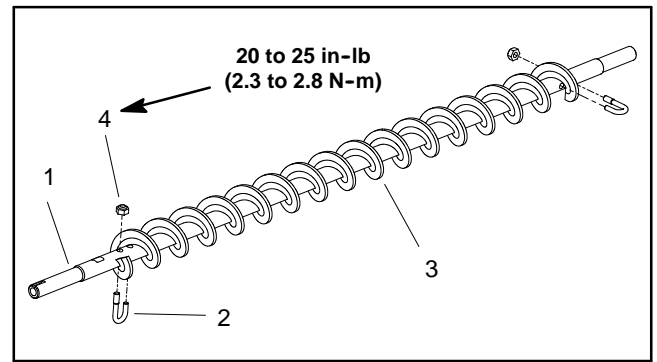

Figure 39
- C. Remove the LH brush support (item 15), bearing and locking collar from brush shaft and cutting unit.
- D. Remove lock nut and J-bolt from both ends of the brush (Fig. 39).
1. If roller brush was removed from brush shaft, slide brush onto shaft while rotating brush. Secure brush to shaft with two (2) J-bolts and lock nuts. Make sure that the J-bolts are installed with the threaded portion on the outside of the brush (Fig. 39). Torque lock nuts from **20 to 25 in-lb (2.3 to 2.8 N-m)**.